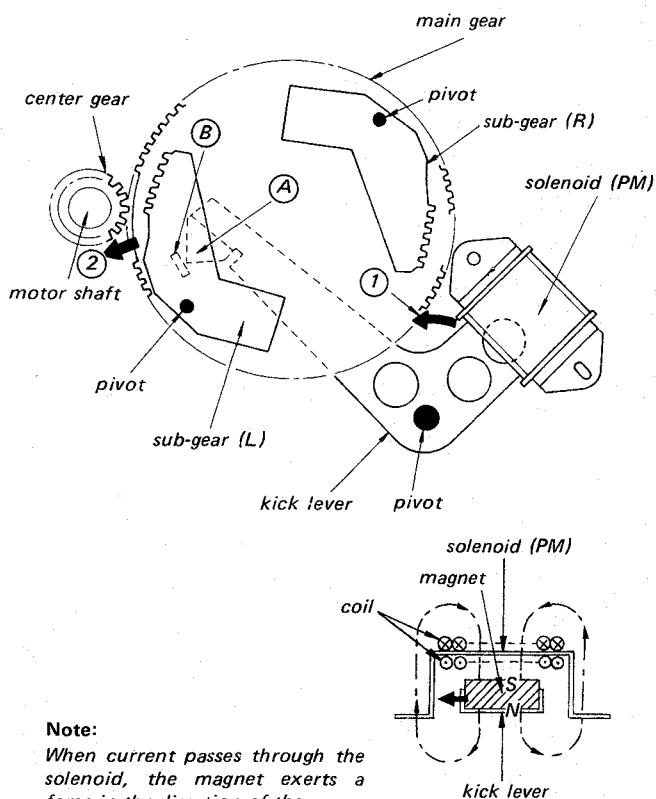
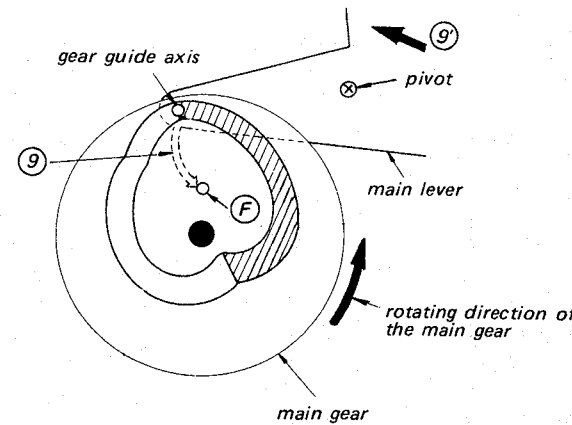

Fig. 1-2.
Fig. 1-7.
1. When the metal part of the START/STOP button is touched by the hand, the system control circuit is activated, resulting in the motor commencing to rotate, and current flowing through the solenoid (PM).
2. With current flowing through the solenoid, the kick lever is pulled in direction ①, resulting in tip ① of the kick lever pushing against part ② of the sub-gear (L). This sub-gear is thus pushed out in direction ② to engage the center gear mounted on the motor shaft. (See Fig. 1-2.)
3. Once the revolving center gear engages the sub-gear (L), the main gear will commence to rotate in the counterclockwise direction due to the driving force supplied by the motor. It will stop again in the position shown in Fig. 1-7.
1. While the record is being played, the main gear and main lever are in the positions as shown in Fig. 1-7.
2. If the START/STOP button is touched during play, or if the record finishes playing, the systems control circuit is activated. A current flows through the solenoid (PM), and the kick lever moves in the same way as at the beginning of record play (see Fig. 1-2). This time, however, the sub-gear (R) is pushed back and engaged with the center gear, thus rotating the main gear again in the counterclockwise direction.
3. The gear guide axis at the tip of the main lever is moved across to position ⑤ by following the curved path ⑨ due to the guiding action
of the shaded portion of the groove in the heart-shaped cam positioned on the main gear. The main lever consequently moves across in the direction of the arrow ⑨ (see Fig. 1-7).